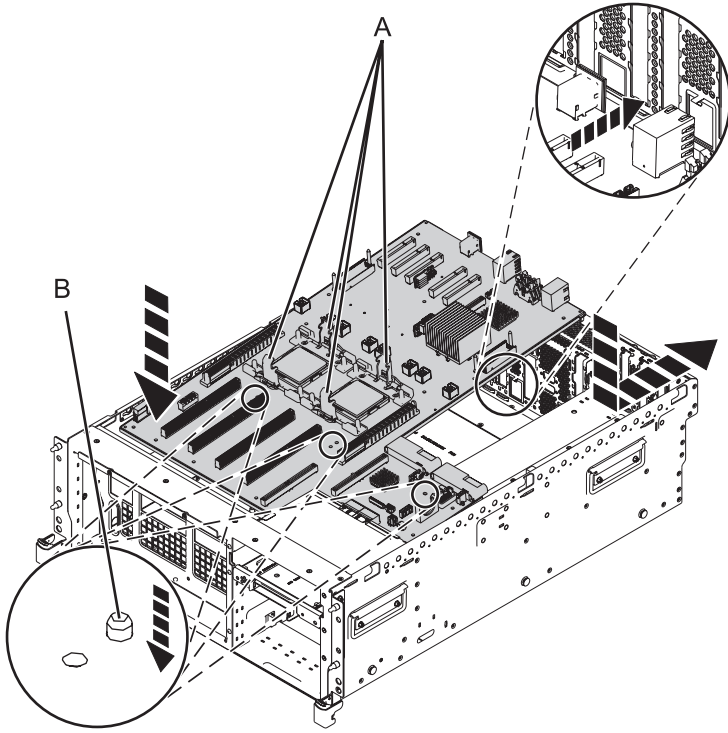

Figure 41. Installing the system backplane in the 8202-E4B or 8205-E6B
- a. Carefully grasp the replacement system backplane by both of the heat-sink load arms **(A)**. See Figure 41 on page 66.